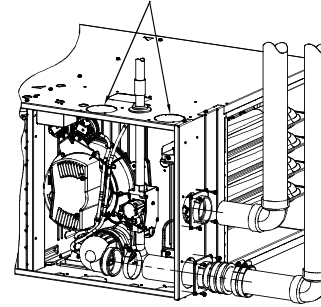

Fig. 58 – Horizontal Right (Appearance May Vary)
3. Tighten the clamp around the vent elbow. Torque the clamp to 15 lb-in. See Fig. 55 - Fig. 58.